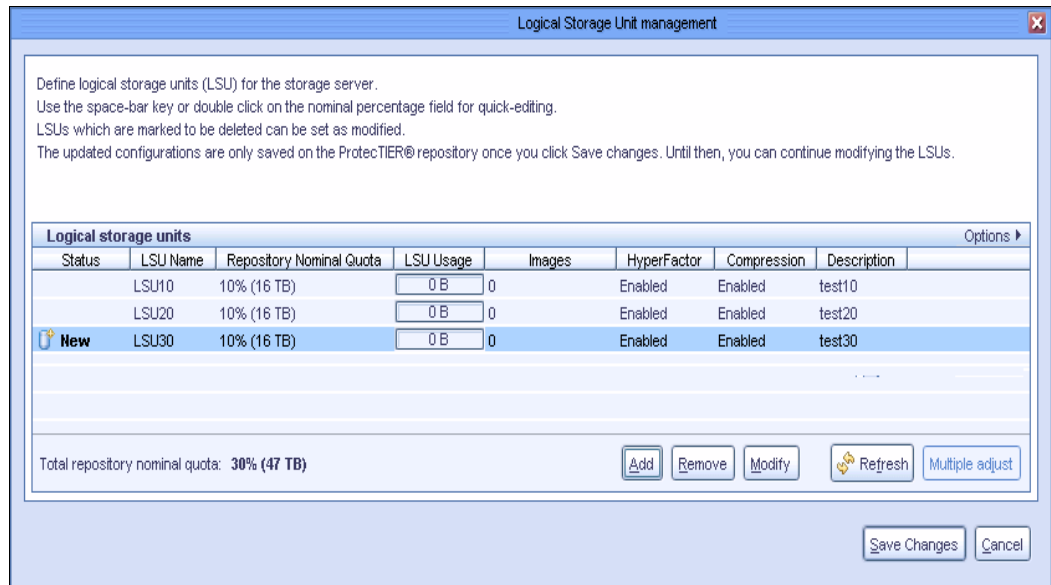

Figure 5-92 Logical Storage Unit management window
1. Select **Logical Storage Unit management** from the OpenStorage menu. The Logical Storage Unit management window opens and (Figure 5-92) displays the following fields: